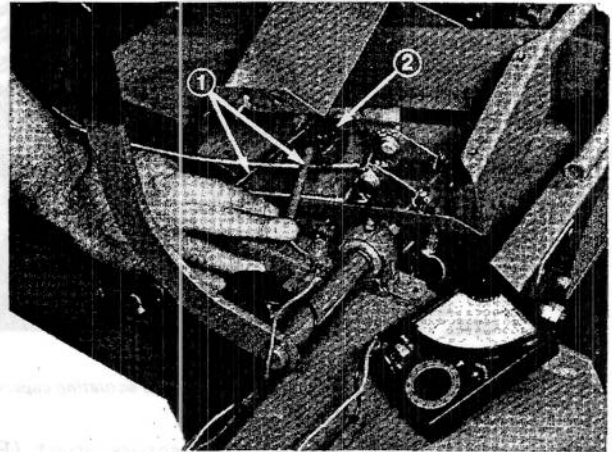

Figure 82
7. Check continuity across "B" and "S" terminals on back of ignition switch while the switch is in the START position (Fig. 82). Replace the ignition switch if there is no continuity. If the switch has continuity, replace the wire harness. Repeat step 5.